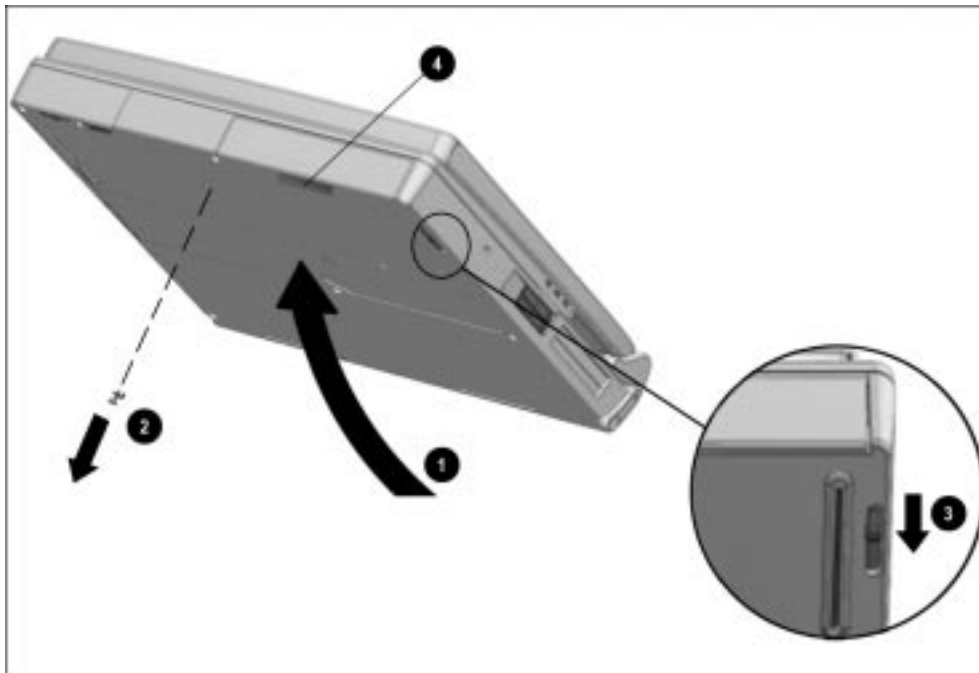

Figure 5-20. Releasing the Hard Drive Assembly from the MultiBay
2. Tilt the computer at an angle ❶ so the bottom of the computer is accessible (Figure 5-20).
3. If the hard drive assembly is secured in the MultiBay with a single- or dual-bay security screw ❷, remove the screw with the security wrench included with the computer.
4. Slide the MultiBay release latch ❸ toward the rear of the computer.
5. Grasp the hard drive assembly using the recess ❹ beneath the MultiBay.